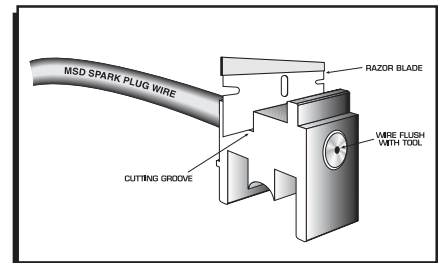

Figure 3 Stripping the Wire.
1. Locate the correct cutting groove of the Mini-Stripper-Crimper for your wire. One groove is larger to accept the 8.5mm Super Conductor Wire. Insert the wire from the long side of the crimper tool and push it through until it is flush with the other side (Figure 3).